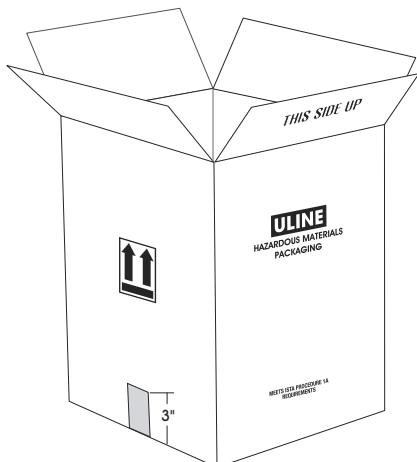

Figure 2
2. Seal bottom of carton with one strip of 2" wide (2.6 mil) polypropylene tape (Uline model # S-14564). The tape must extend 3" over each end of the carton. (See Figure 2)